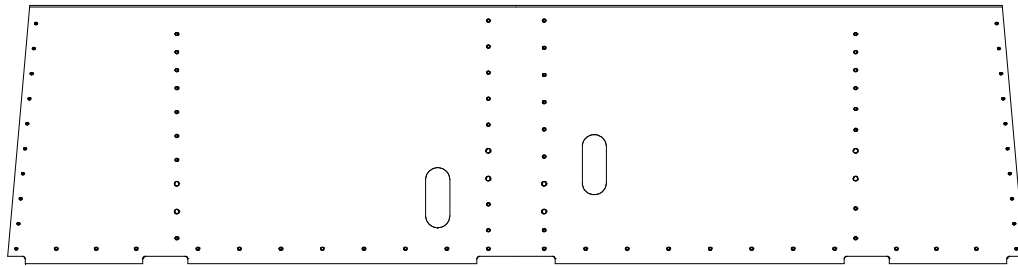

Fig. 9.6.8
11) Add extra #30 holes as in Figure 9.6.8.